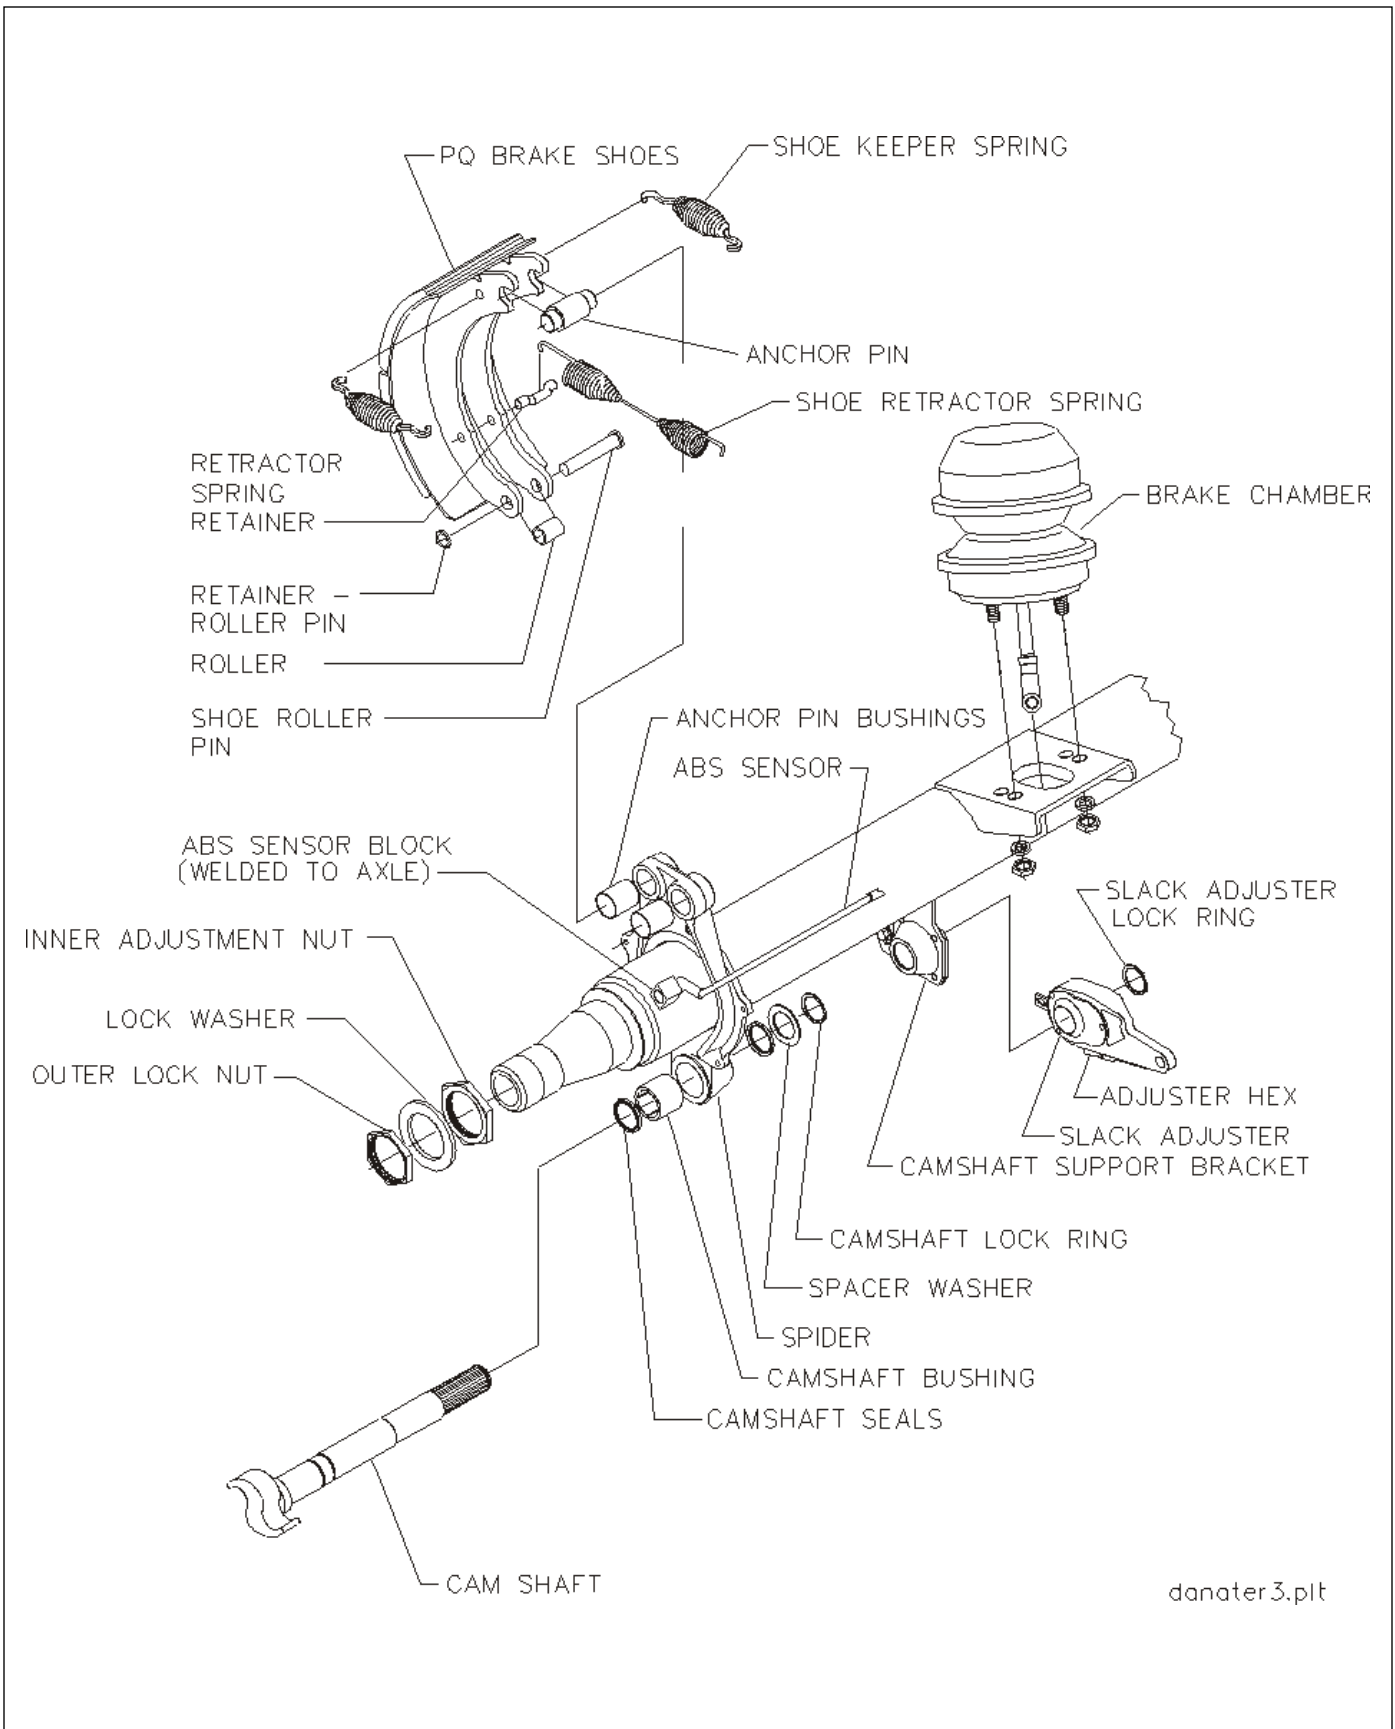

Figure 4-13: Axle and Brake Assembly
2. Remove dust cap from the rear of the spring brake chamber (**See Figure 4-13.**)
Disassembly for Brakes (See Figure 4-13)
3. Remove drum assembly **(See Figure 4-13.)**